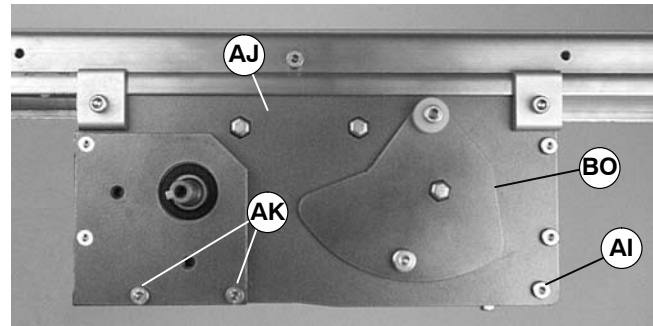

Figure 40
- Tighten screw (AI of Figures 40) on each side of center drive module (AJ) to 80 in-lb (9 Nm).
- Install screws (AK of Figure 40) on each side of center drive module (AJ). Tighten screws to 80 in-lb (9 Nm).
NOTE: For a new belt, the tension plate will be in position (BO of Figure 40). When tension plate extends to position (BP of Figure 41), the conveyor belt must be replaced.